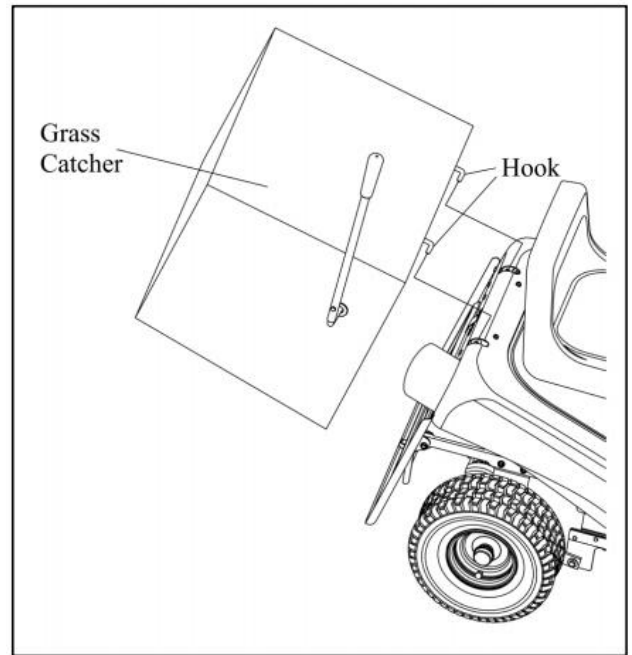

Figure 7
- 6) Hang up grass catcher. Use rubber hammer to make sure it's hooked in completely(Figure 7).